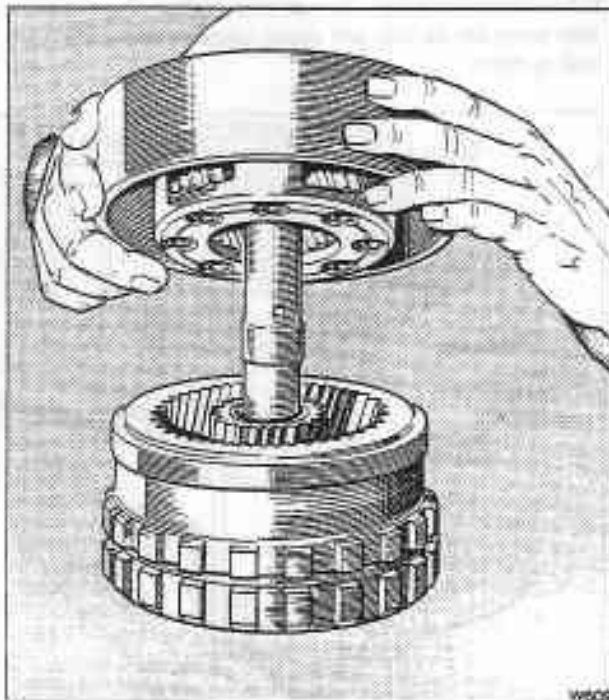

Fig. T20-16 Fitting the reaction carrier to the output carrier
19. Ensure that the reaction carrier pinion gears are adequately lubricated. Then, fit the reaction carrier onto the output carrier as shown in figure T20-16. Mesh the pinion gears with the front internal gear.